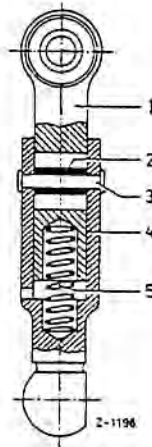

Fig. 26-12/5
10. Check the radial play of the selector lever shaft (9) in the bearing assembly (37) and of the relay lever (4) on the shaft (1).
11. Check the end play of the selector lever (31) in the shift tube (16) (for dimensions see Job No. 26-0), since excessive play may make gear shifting difficult.
12. Push the lever (7) onto the splines of the shift tube (16). The lever must be easy to shift in the axial direction and must not bind.
13. Check the radial play of the lever (7) in the Vulkollan bushing (17). If the play is excessive, replace the bushing in the cover plate (13). (Fig. 26-12/1).